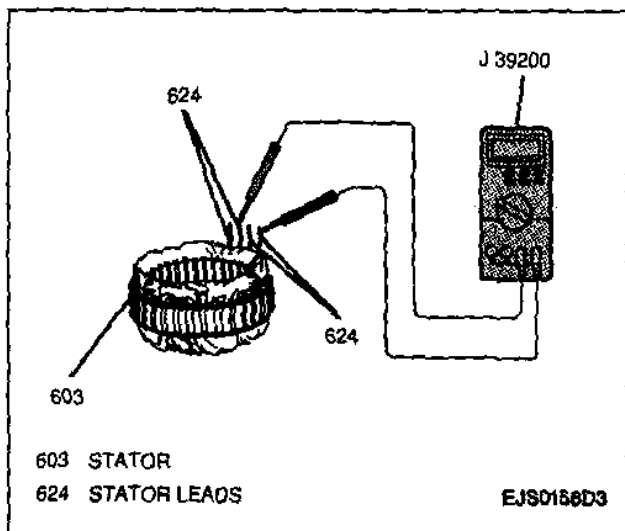

Figure 15—Measuring Stator Lead Resistance
3. Resistance between all stator leads using the J 39200 (Figure 15). If resistance is greater than 5 ohms for any measurement, replace the stator.